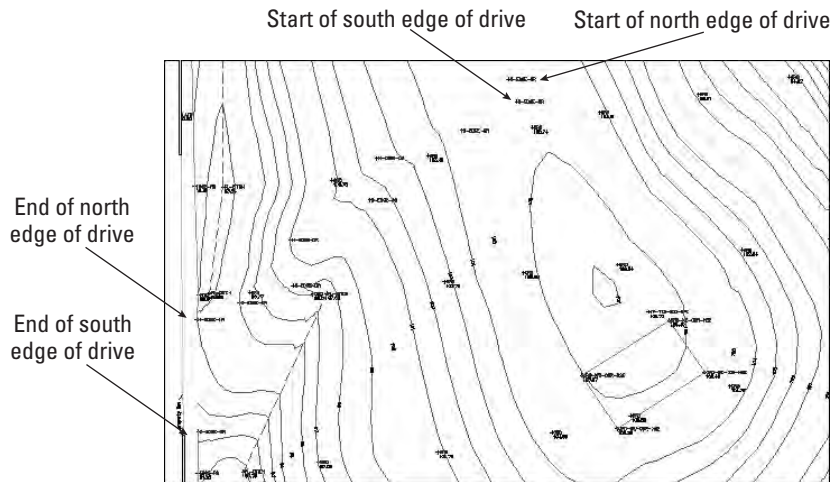

Figure 16-7: A topographical site map. You can complete the gravel road based on surveyor's data.
2. Save the file as *ab16-03.dwg* in your *AutoCAD Bible* folder. This is a topographical site map, shown in Figure 16-7. OSNAP should be on. Set a running object snap for insertion.
4. At the *Specify first point* or *[Object]:* prompt, use the Insert object snap to pick the cross at the start of the north edge of the drive, as shown in Figure 16-7. Continue to pick the crosses marked N-EDGE-DR. Choose Pan from the Standard toolbar to do a real-time pan when you reach the edge of the display. Press Esc. Continue picking points until you get to the end of the north edge of the drive, as shown in Figure 16-7. Press Enter to end point selection.
6. Start the SPLINE command again and pick points for the south edge of the drive, from the start of the south edge of the drive to the end, as shown in Figure 16-7. Pan as necessary. Again, press Enter to accept the default directions for the start and end tangents.